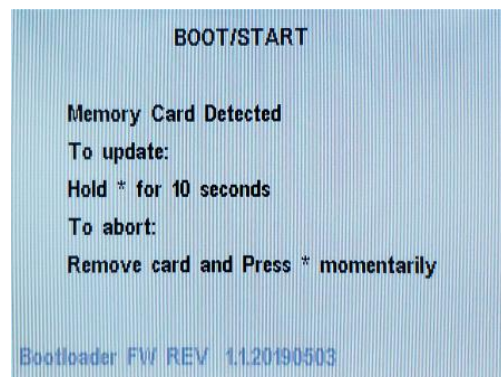

Figure 2. BOOT/START Screen
6. Turn on the power of the BlueWave® AX-550. The BOOT/START screen will appear (Figure 2).